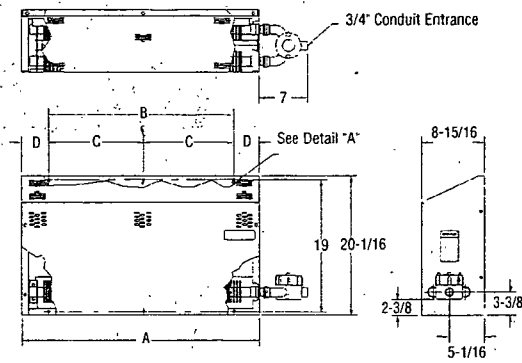

Figure 1A
4. Refer to Figure 1A, 1B or 1C for mounting hole layout for each cabinet size.